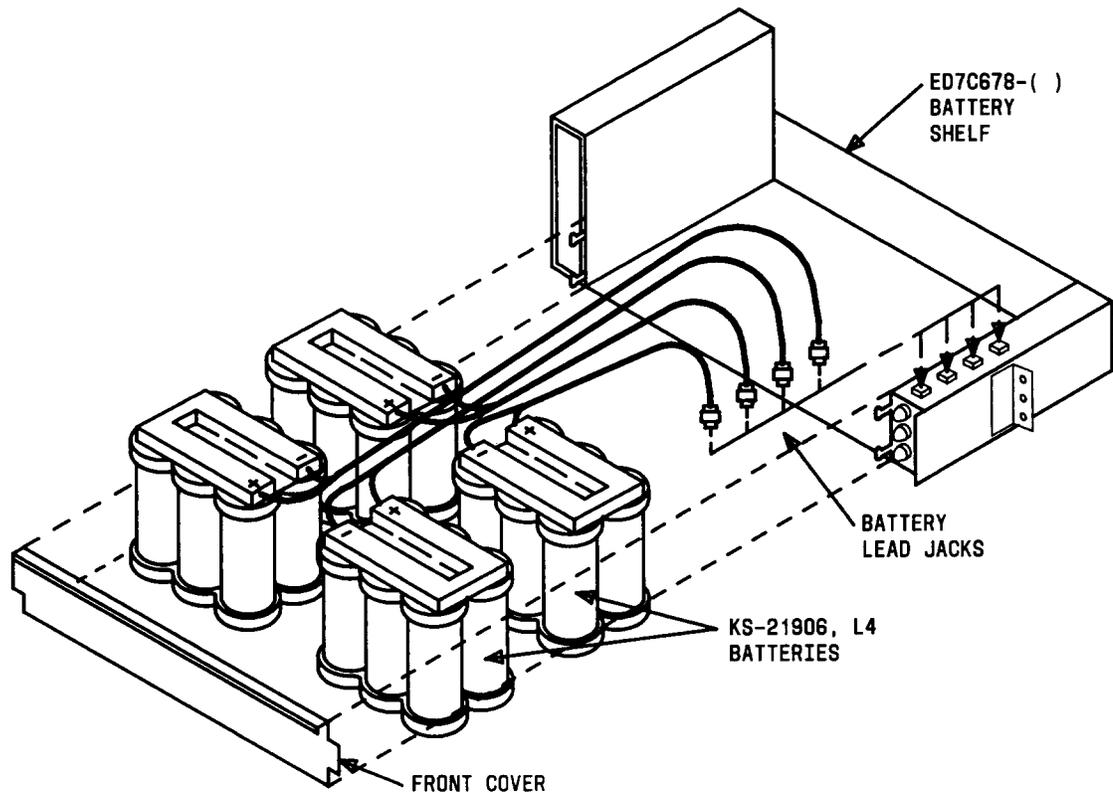

Fig. 3—Battery Placement and Connections
22. Place batteries on battery shelf and dress battery cables as each battery pack is placed on shelf (Figure 3).